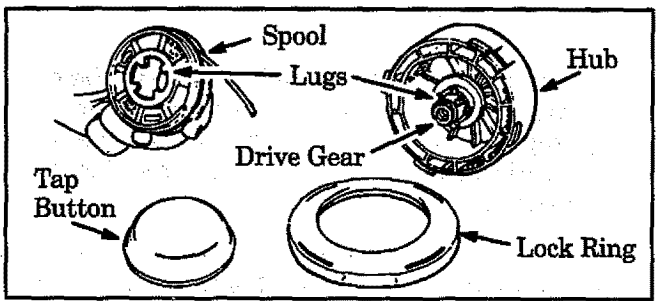
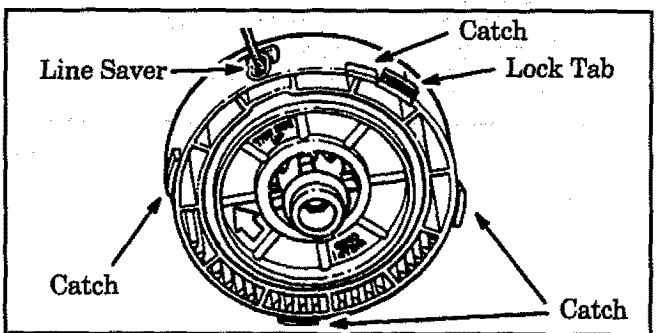

Figure 17
Figure 18
- b. Remove the lock ring, tap button, and spool. **Figure 17**.
NOTE: The aluminum line saver (**Figure 18**) can become worn during use. After a groove is worn into line saver, remove it from trimmer head, turn it upside down, and reinstall it (with spool removed) to provide a new wear surface.
- e. Insert the end of the line through the line saver. **Figure 18**. Place spool in trimmer head. Press spool down, then turn it enough to lock lugs on spool under lugs on drive gear. **Figure 17**.
- f. Replace the tap button. Align the lock ring over the catches on the hub; push the lock ring down on the hub and turn it clockwise until the catches lock into place. **Figure 18**.